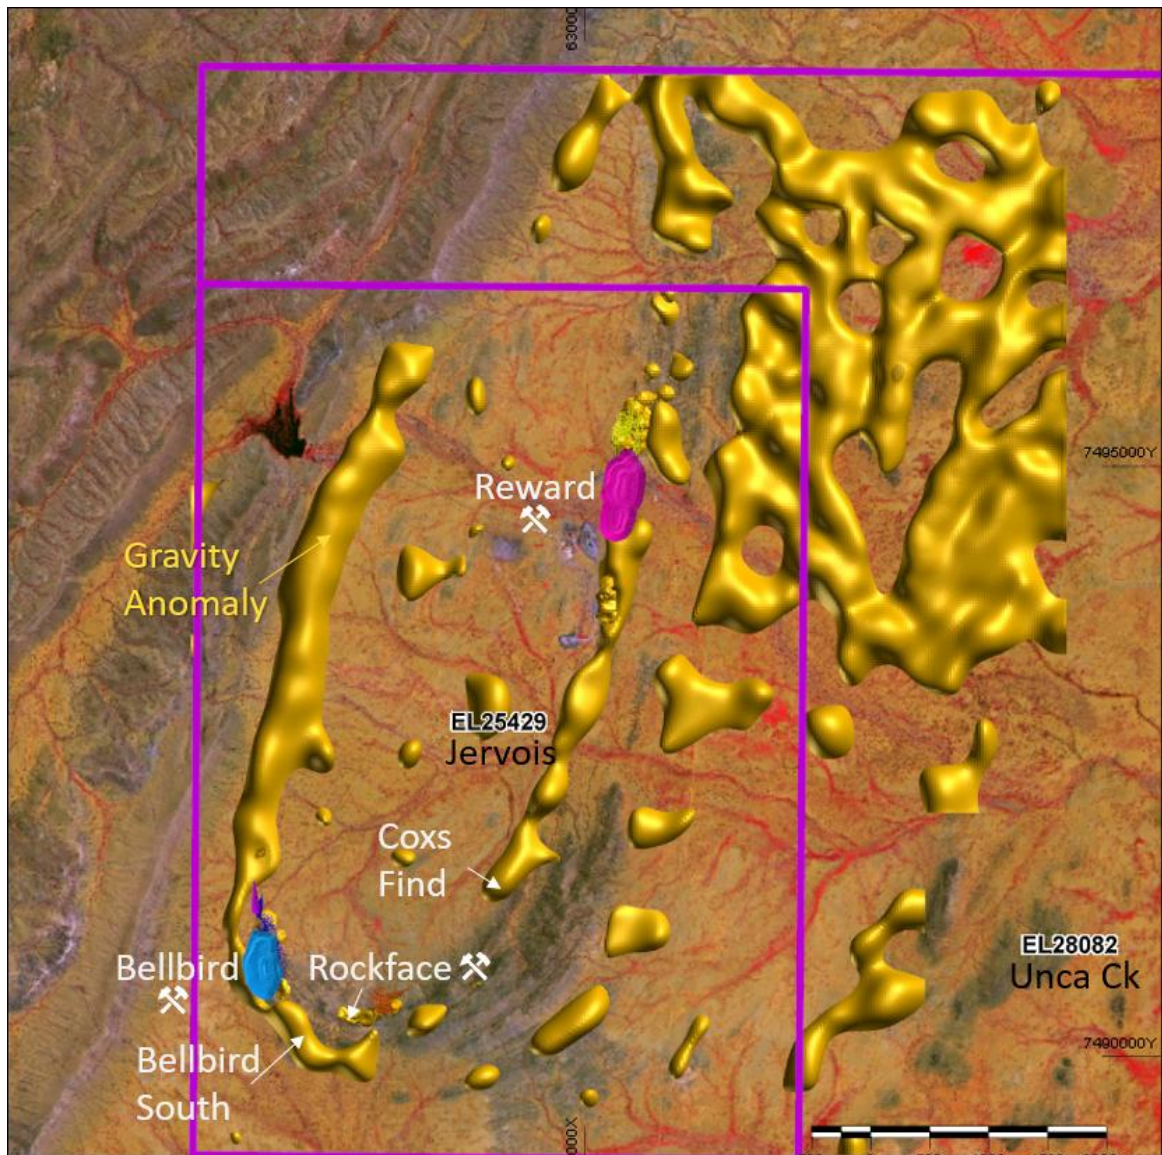

Figure 2: Location Map. Drill rig #1 and assay results from Reward Prospect, Rig #2 Exploration commenced drilling at Bellbird South and will move to Coxs Find
Rig #2 will focus on KGL's extensive portfolio of highly prospective exploration targets on the company's 100%-held mining leases and extensive adjoining exploration licences at Jervois and Unca Creek. Its first drill-hole, KJD443 is located at Bellbird South and is targeting strong coincident gravity and 3D induced polarisation (IP) anomalies. The immediate plan for Rig #2 includes 3 holes at Bellbird South and 4 holes at Coxs Find prospect, which is situated on the J-fold trend and has only been tested by shallow drilling (see Figure 2 for locations). All holes will be surveyed by down-hole electromagnetics (DHEM), which is a proven mineralisation-finding technique at Jervois.